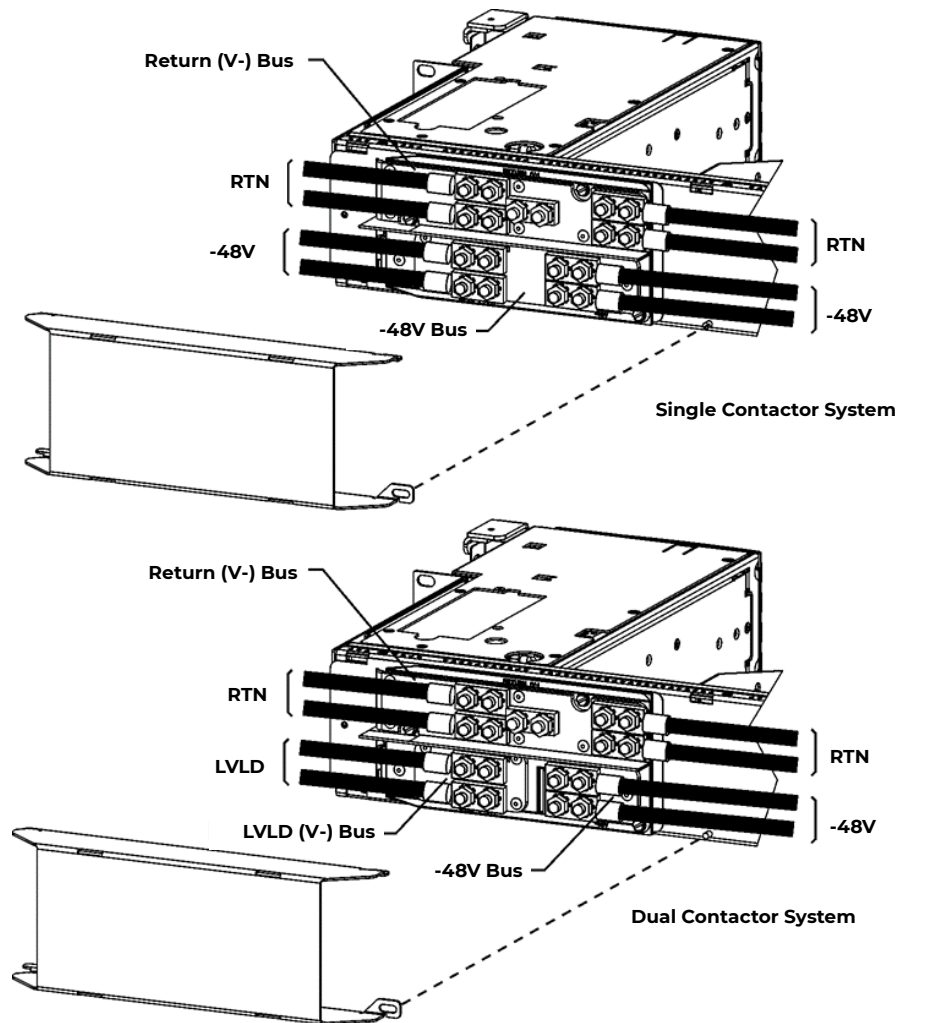

Figure 5-20a: Rear Load Connections
2.	Terminate the load cables on the load buss with M6 nuts and torque to 65 in-lb(7.3Nm). See Appropriate Figures 5-20a, through 5-20c for Distribution Module connections.